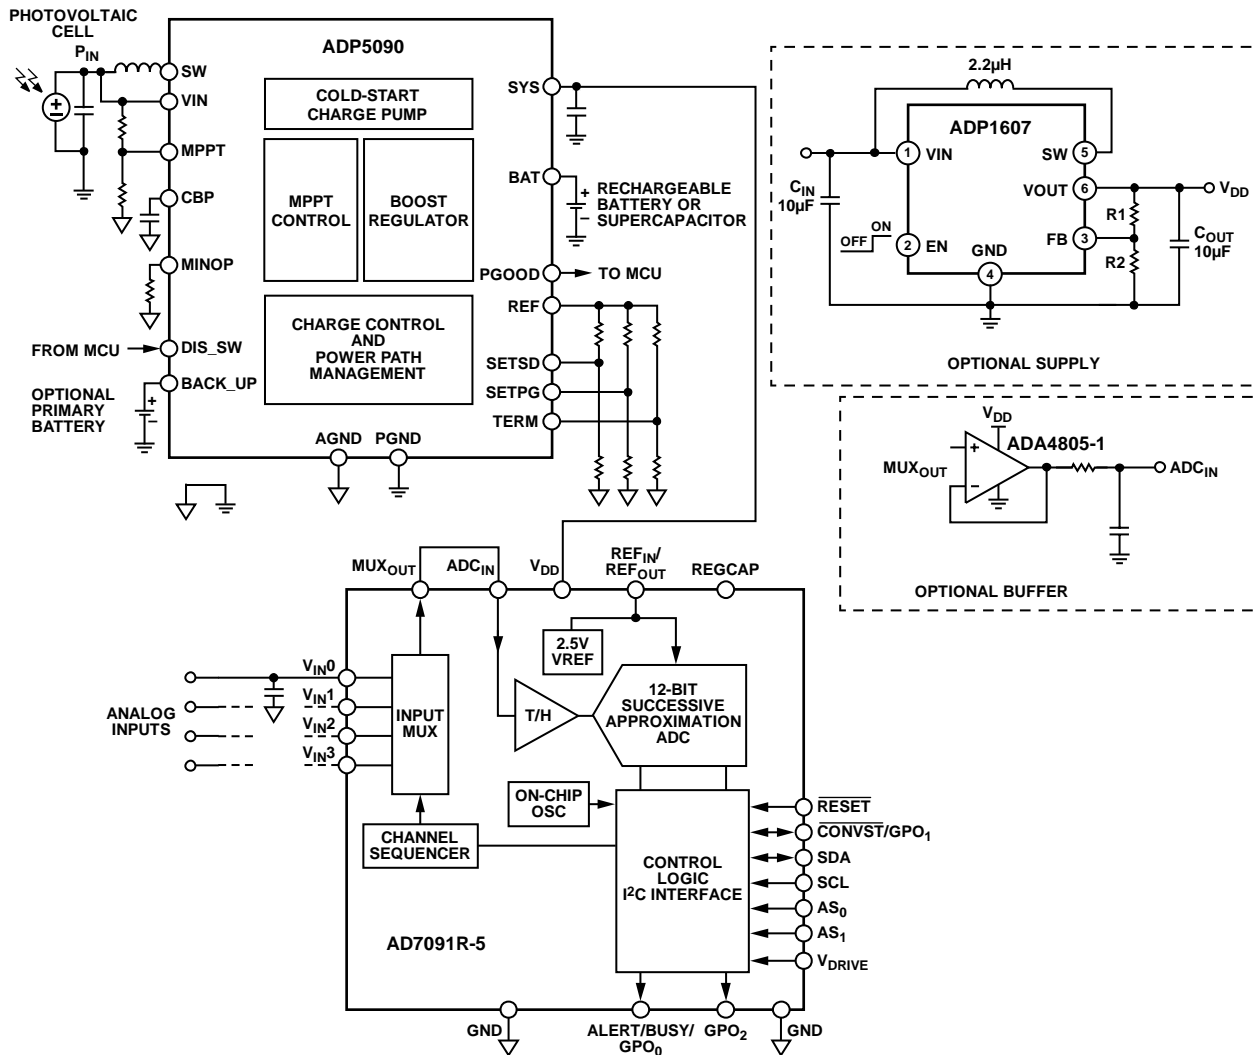

Figure 1. Low Power Data Acquisition System with Energy Harvesting Circuit (Simplified Schematic: All Connections and Decoupling Not Shown)
The circuit shown in Figure 1 is an ultralow power, multichannel data acquisition system that can be powered by a photovoltaic (PV) cell or thermoelectric generator (TEG). The circuit uses the industry's lowest power, multichannel, 12-bit successive approximation analog-to-digital converter (SAR ADC), the AD7091R-5, along with an efficient energy harvesting circuit based on the ADP5090 boost regulator. The ADC has a typical power consumption of 100 μW on a single 3 V supply when sampling at 22 kSPS. Typical signal-to-noise ratio (SNR) is 68 dB for a 1 kHz input signal.
The SYS voltage output of the ADP5090 supplies the entire circuit as shown in Figure 1.